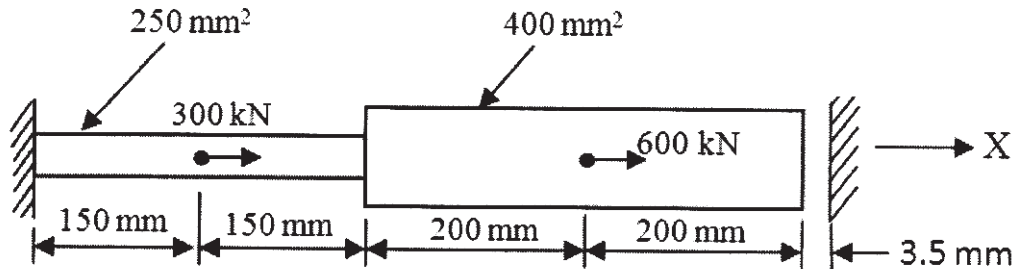

Figure 2
- b)** For the bar as shown in Figure 2, determine the nodal displacements and element stresses. Take modulus of elasticity  $E = 2 \times 10^{11} \text{ N/m}^2$ . Take maximum displacement at free end as 3.5 mm. Use elimination approach for boundary conditions. [12]